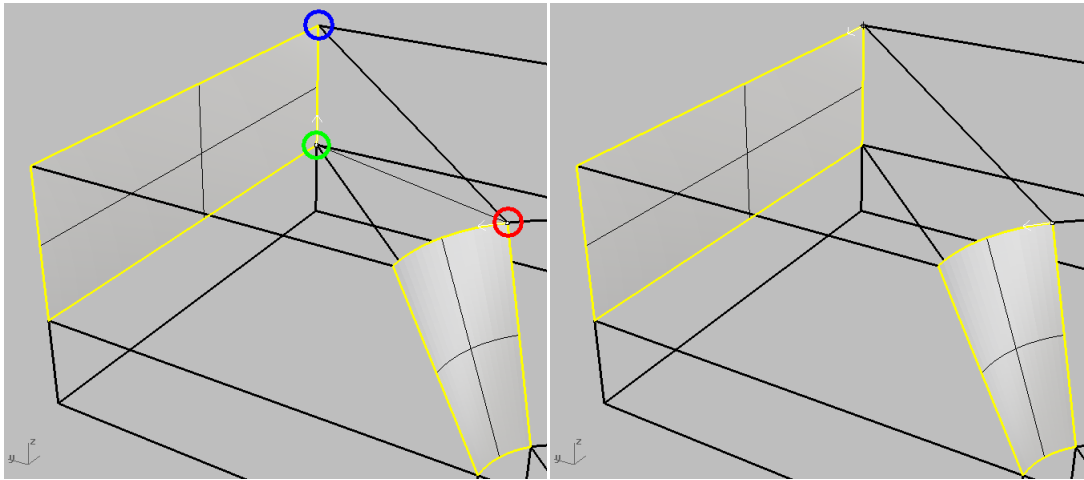

Figure 68: Lofting a surface between the borders of two existing surfaces.
9. Select **both surfaces**, then **Curve|Curve from Objects|Duplicate Border** (Figure 68, left). While the two borders are highlighted, select the **Surface|Loft** menu item.
10. Note that *Rhino* responds with: **Drag seam point**, and the Loft **preview** may indicate that Rhino will connect the **red** vertex to the **green** one (Figure 68, left). If this were the case, the lofted surface
would be **twisted**. To force Rhino to connect the **red** vertex with the **blue** one instead, click on the **green** vertex, then on the **blue** one to move the destination point from green to blue (Figure 68, right).